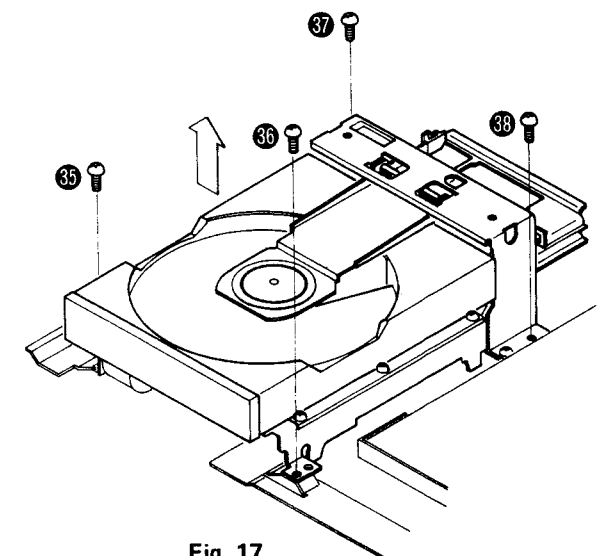

Fig. 17
2. Remove the 4 setscrews [Fig. 17 : 35 ~ 38] of traverse unit. Screws 35 ~ 38 are red.
1. Remove the 4 setscrews [Fig. 17 : 35 ~ 38] of traverse unit.